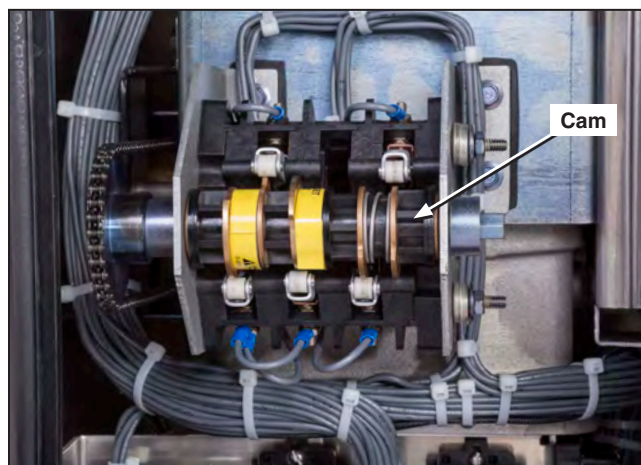

Figure 40. Adjusting the cams on the auxiliary switch.
- (a) Push the cam toward its adjacent spring until the cam is separated from the teeth of the inner gear. See Figure 40.